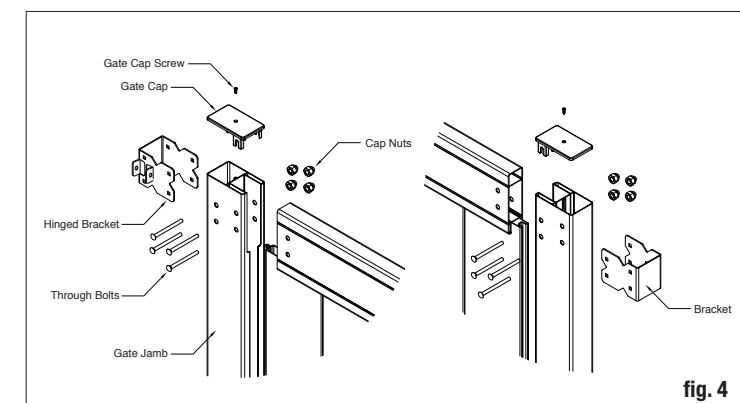

fig. 4
Place gate jambs on both sides of the rails place the hinges on the gate jamb so they are aligned with the rails. Using the bracket as a guide, drill the four (4) necessary 1/4" holes for the bracket bolts. Repeat these steps for the hinged brackets as well (fig. 4). Ensure the rails are fully inserted in the jamb before drilling. The bolts need to go through the jamb and rail to function properly.